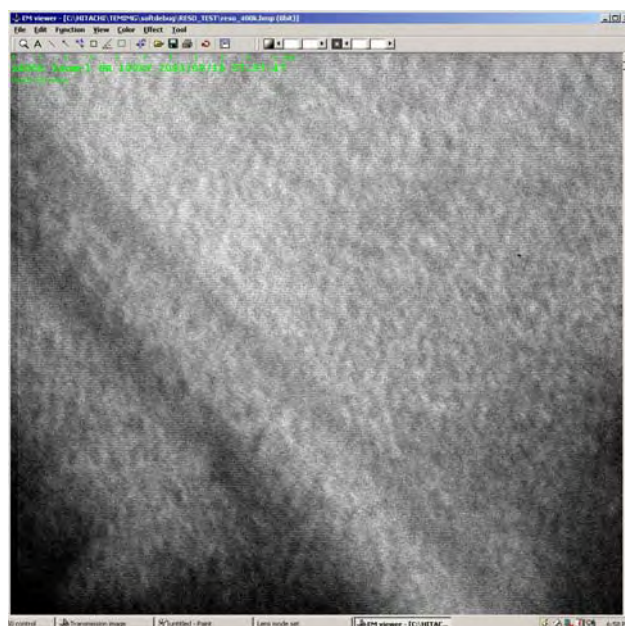

Fig. 3-22 EM viewer Window
- (b) EM viewer is activated to display the selected image on the EM viewer window as shown in Fig. 3-22.